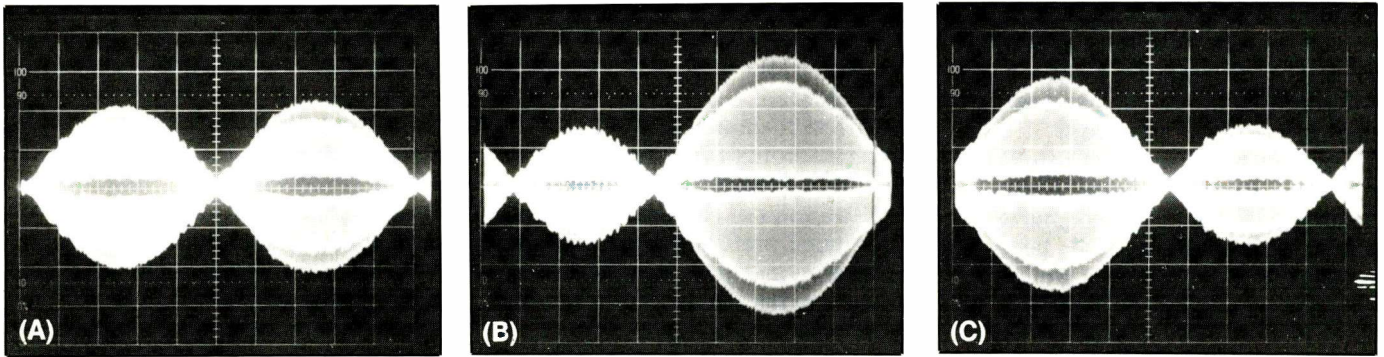

Fig. 3. Oscilloscope displays for: (A) perfectly aligned heads; (B) heads misaligned toward Track 15; and (C) heads misaligned toward Track 17.
Remove the Channel 1 probe from the index-pulse test point. Set Channel 1 for an ac-coupled input at 50 mV/div, leaving the sweep rate at 20 ms/div. Move the Channel 1 probe to other test points until a signal pattern like that shown in Fig. 3(A) appears.
Connect the Channel 1 probe to one of the drive's amplifier test points and the Channel 2 probe to the other. The "cat's-eye" pattern shown in Fig. 3(A) should appear on your scope display. Again, you may have to adjust the vertical-deflection levels of the two scope inputs up or down one setting to maintain a roughly full-scale signal that doesn't exceed the screen display area. Make sure the Channels 1 and 2 vertical-deflection settings are kept the same.
Use the displayed pattern to determine your drive's radial alignment. When the two lobes of the pattern have equal (or near-equal) vertical amplitude, the heads are perfectly aligned, as shown in Fig. 3(A). If the left lobe is smaller than the right, the drive heads are misaligned toward
track 15, as illustrated in Fig. 3(B). If the right lobe is smaller, the drive heads are misaligned toward track 17, as in Fig. 3(C).